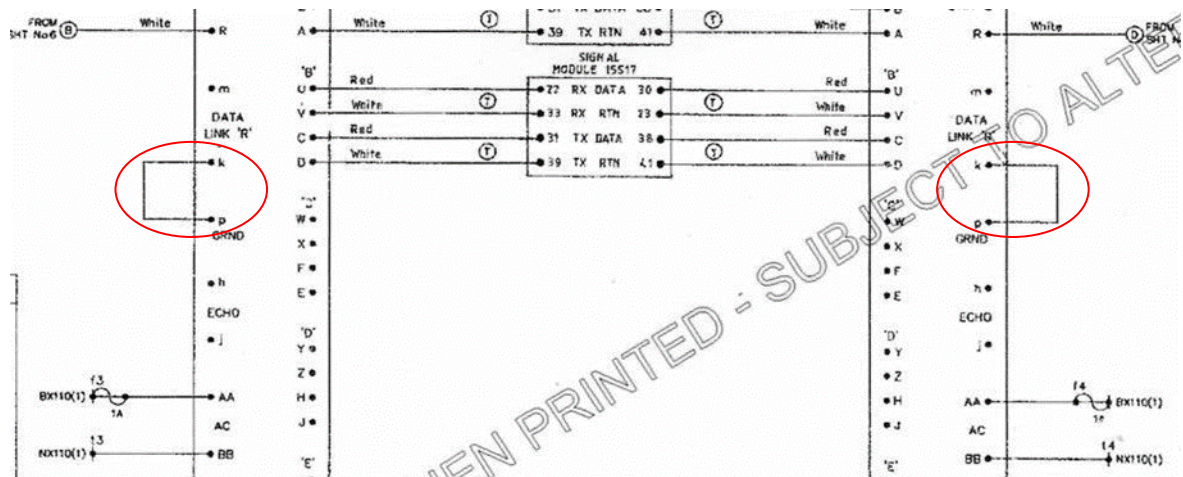

Figure 1 - SSI data link module wiring
17.6 Where recent alterations have been carried out (new version of location case prints since last maintenance visit), check the location wiring diagrams to confirm that the design calls for a strap between p and k (highlighted in figure 1) on the data link module plug (unless there are two data link connections to the DLM).